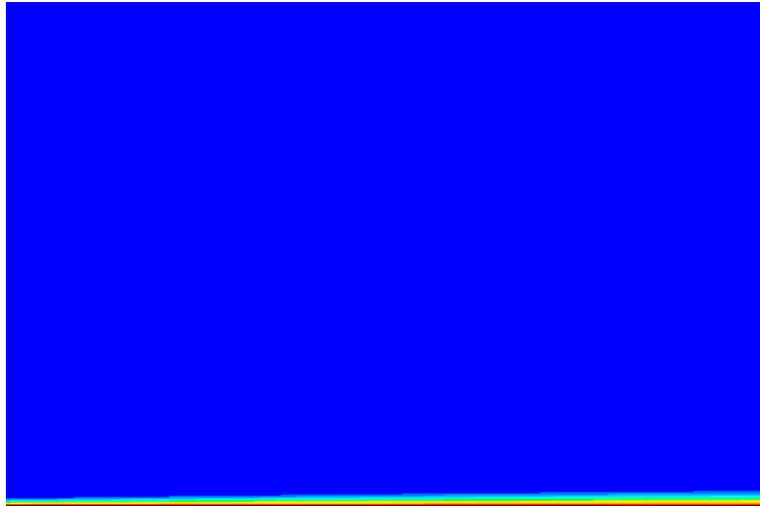

Figure 3.6: Contours of Static Temperature
3. Display the temperature contours (Figure 3.6).
*Zoom in to get the complete temperature distribution of temperature along the length of plate (Figure 3.6).*